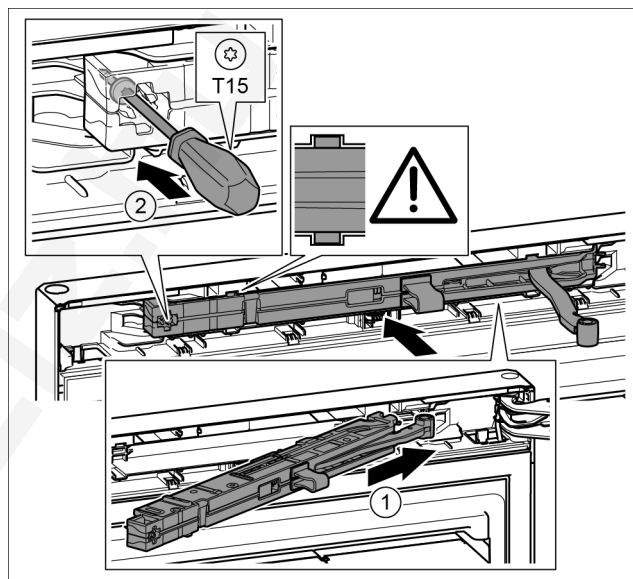

Fig. 47
- ▶ Slide the soft stop mechanism on the bearing bracket side at an angle into the slot as far as the limit stop. Fig. 47 (1)
- ▶ Tighten the screw with the T15 screwdriver. Fig. 47 (2)